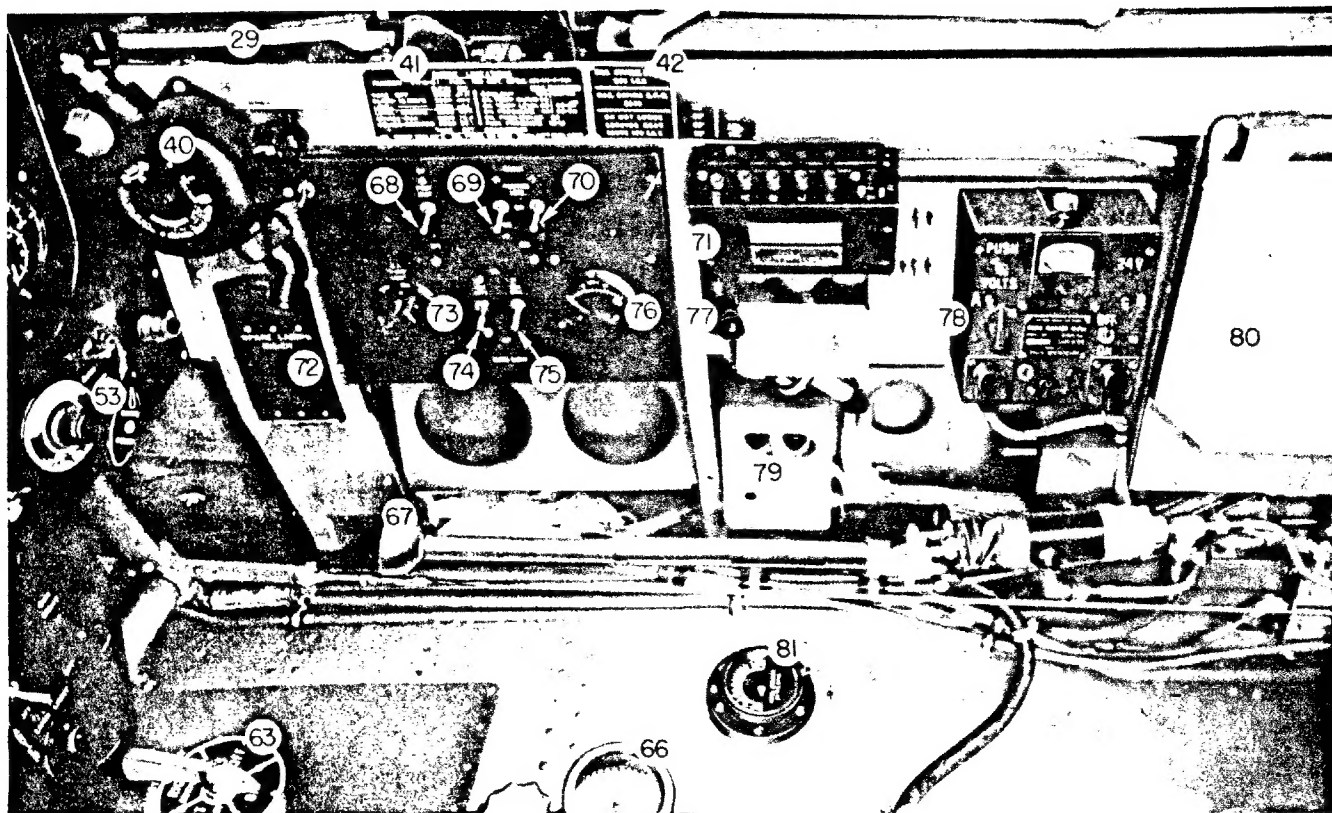
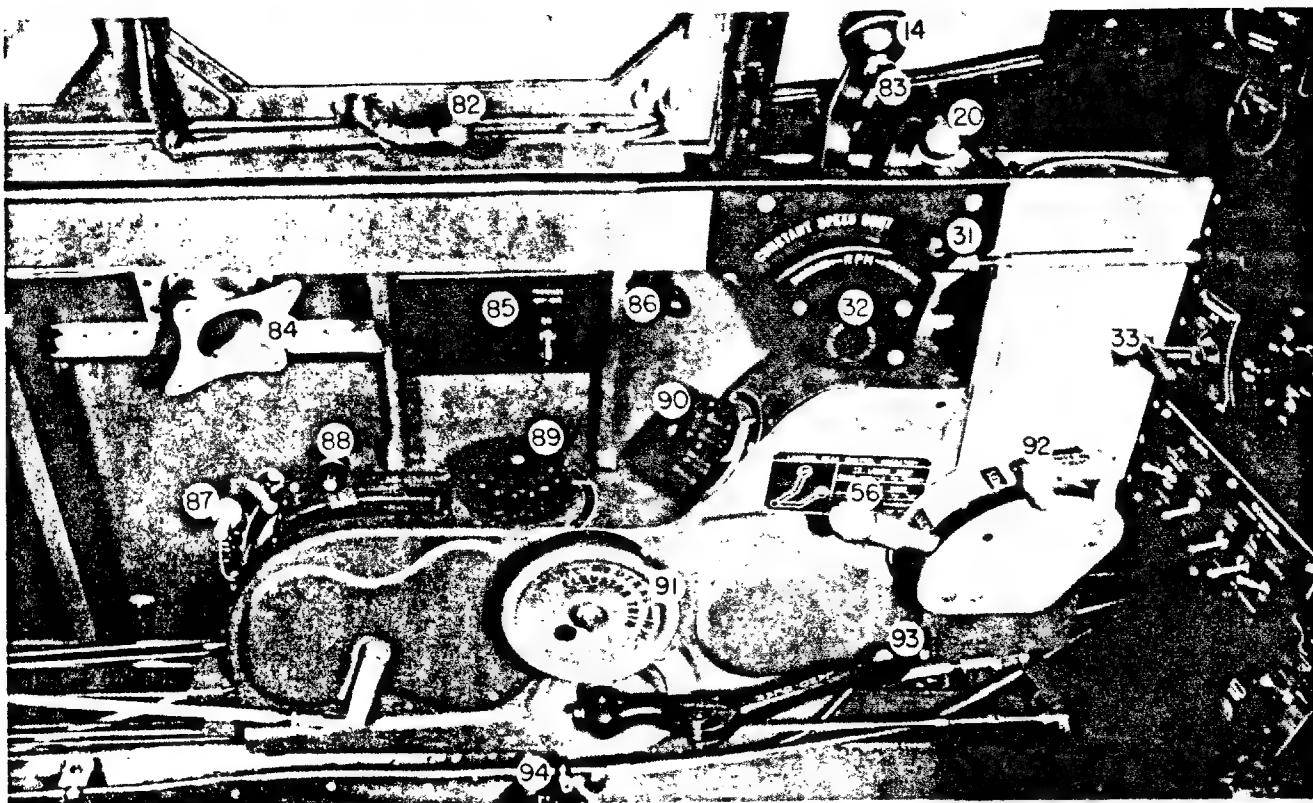

Figure 3—Cockpit—Right Side
Figure 4—Cockpit—Left Side
(1) Test operate cockpit swivel lights. (See No. 77, figure 3 and No. 86 figure 4.) These lights are switched on by means of a knurled knob on top of the fixture base.
(2) Test operate landing lights. (See No. 74, figure 3.)
(4) Test operate position lights. (See No. 69 and No. 70, figure 3.)
(5) Test operate fluorescent instrument lights. The rheostat knobs for these lights are located as shown by No. 60, figure 2 and No. 73, figure 3.
(2) Flight controls unlocked. Test for free operation.
(3) Flaps "UP." (See No. 87, figure 4.)
(4) Landing gear control handle "DOWN." (See No. 93, figure 4.)
(7) Generator disconnect switch "ON." (See No. 75, figure 3.)
(10) Fuel tanks. Check contents. (See No. 81, figure 3, and No. 94, figure 4.)
(12) Radiator scoop closed. (See No. 88, figure 4.)
(16) Bomb release handle. If bombs, fuel tanks, depth charges, or chemical tanks are installed on the racks make sure that the bomb release handle is in the "LOCK" position and the antisalvo guard is in place. (See No. 56 and No. 92, figure 4.)
(3) Pull out on the handle of the emergency hydraulic hand pump and rotate clockwise to lock it in its fully extended position. It is located to the right of the pilot's seat as shown by No. 67, figure 3. Operate the pump to see whether hydraulic pressure can be obtained as indicated by the gage. (See No. 15, figure 2.)
(4) Check the radio system to see that it is working properly. Instructions for operating the radio system will be found in section 4.
(5) Close the cockpit sliding windows. The sliding windows should be kept closed at all times on the ground with the engine running, and also when taking off, or when a landing is being made. This is necessary to prevent exhaust gases from entering the cockpit. The sliding windows may be opened in flight as desired.